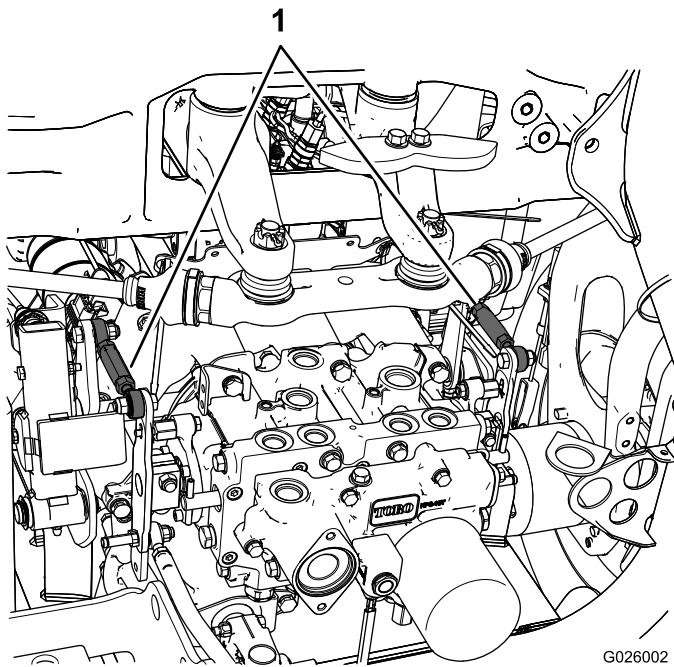

Figure 46
- If the left rear tire is rotating, loosen the jam nuts on the left side transmission control rod (Figure 46).